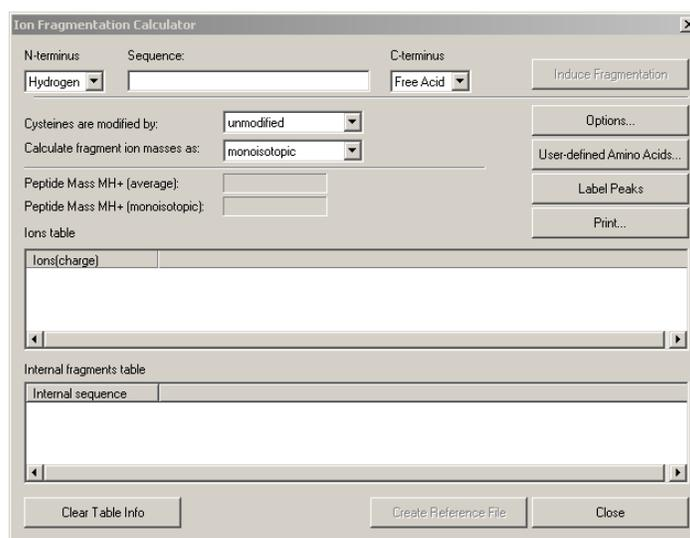

Figure 5: Ion Fragment Calculator dialog box
- 6.1 Go to **Applications** → **Ion Fragment Calculator** (*Figure 5*).